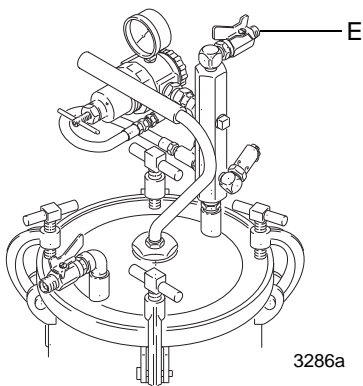

FIG. 2
1. Shut off the air supply to the tank by closing the air inlet valve (15). Refer to FIG. 2.
See FIG. 2 Connect an air supply hose to the 1/4 npt(m) air inlet valve (15) and your air supply. Install an air regulator and filter (G) upstream from the air inlet valve to remove dirt and moisture from your air supply. See **Accessories** on page 22. Connect a fluid hose (E) between the 3/8 npsm(m) outlet valve (K) and the fluid inlet of your spray gun.
(See FIG. 2)
A safety relief valve (12) will automatically relieve the tank pressure when the air pressure exceeds 95 to 100 psi (0.5 to 0.6 MPa, 6.5 to 7 bar). Refer to FIG. 2 or the parts drawings.